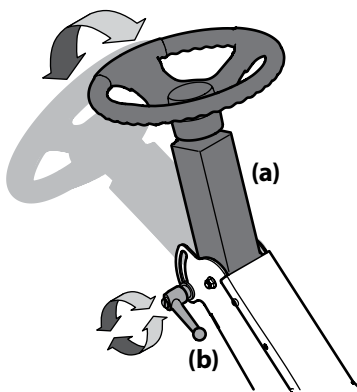

**Figure 2-1**
1. Engage the transmission bypass rods, one on each side of the tractor, to move the tractor manually without starting it. The transmission bypass rods are located on the rear of the tractor, just inside each rear wheel. Engage the bypass rods by pulling each one out (a) and to the right (b) to lock it into place. See Figure 2-1.
2. Disengage the bypass rods by reversing steps a & b after moving the tractor. See Figure 2-1.